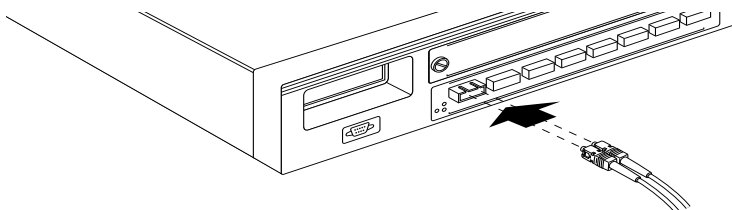

Figure 8: Attaching Fiber Cables to the FX Ports
2. Connect devices to the ports, **one at a time** (Figure 8).